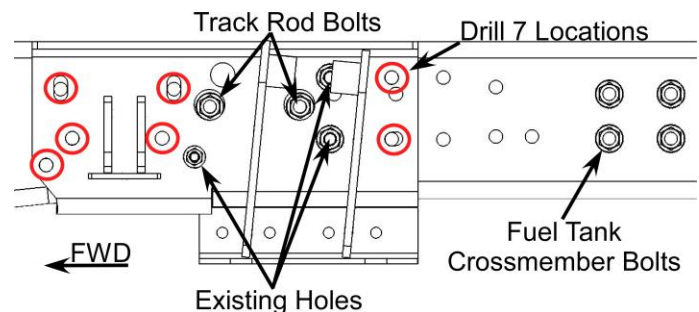

Figure 6: Drill Locations for Driver's Side USM
12. Locate the two upper strut mounts and place along the frame as shown below in Figure 6 and Appendix A: Frame Drilling Locations, Figure A 1, and Figure A 2, Figure A 3, Figure A 4.